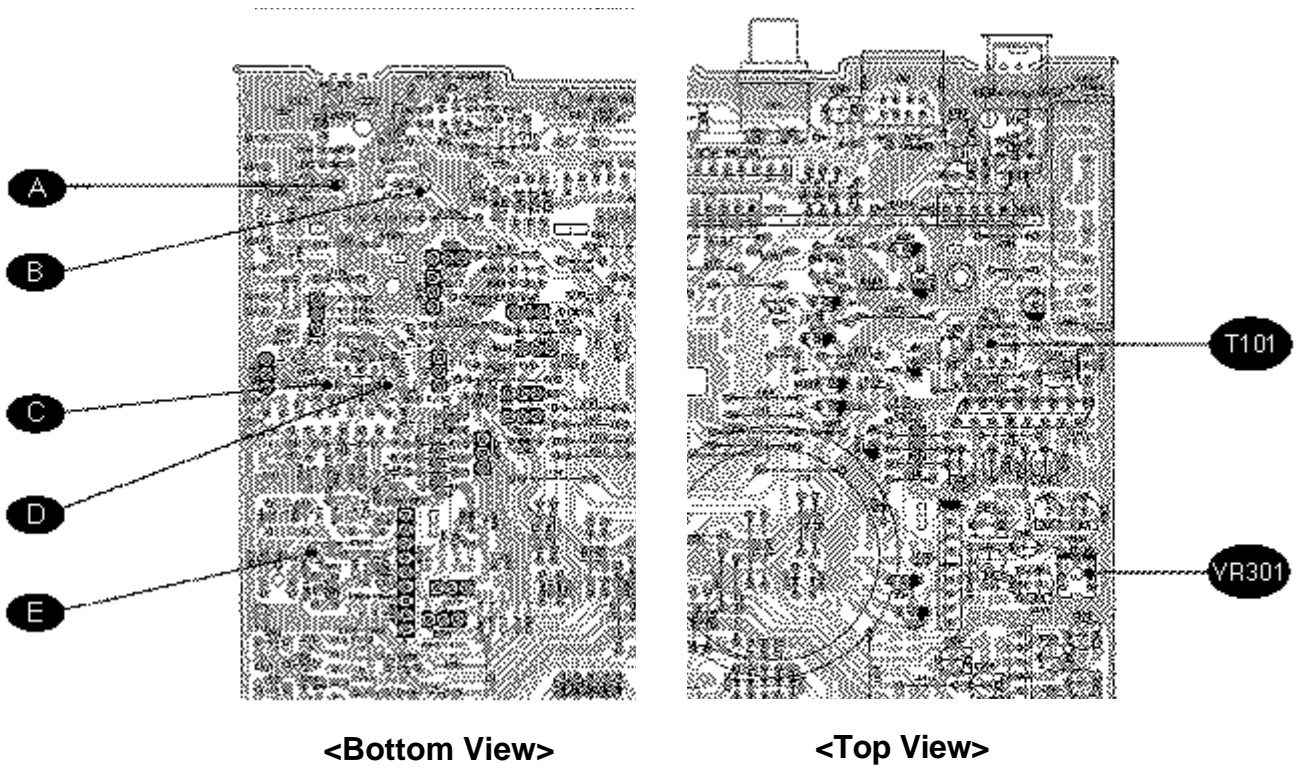

Figure 1. MAIN PCB Board
5. Refer to figure 1~2 for Adjustment Points.
3. Refer to figure 1~2 for Adjustment Points.